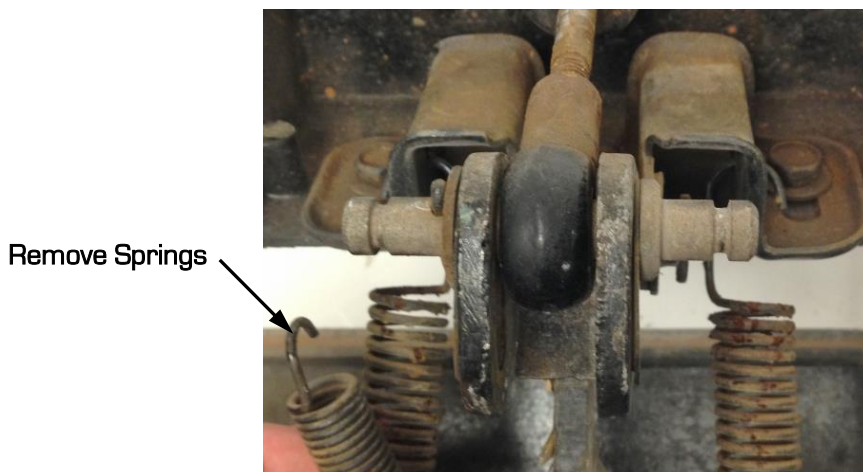

Figure 2 – Remove Springs
3. First, remove the inside pair of springs from the pivot pin with a pair of needle nose pliers (Figure 2). **NOTE:** Wear safety glasses when removing the springs.